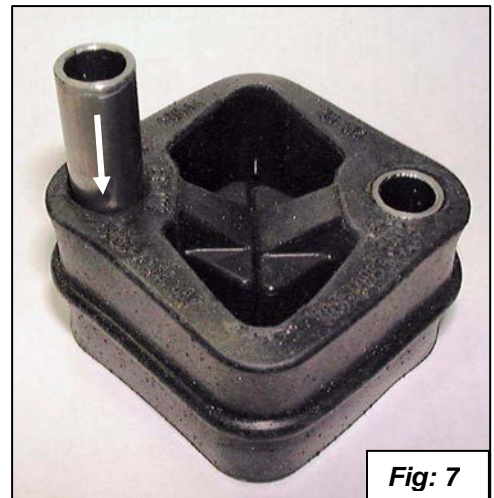

Fig: 7
- Install the metal spacers into the rubber hangers as shown in figure 7.